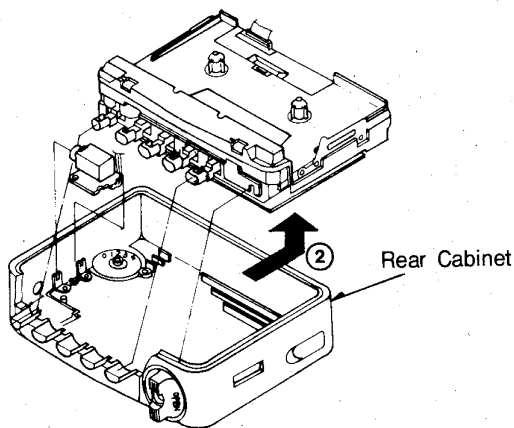

Fig. 4
- Remove the rear cabinet in the direction of arrow ② (See Fig.4)